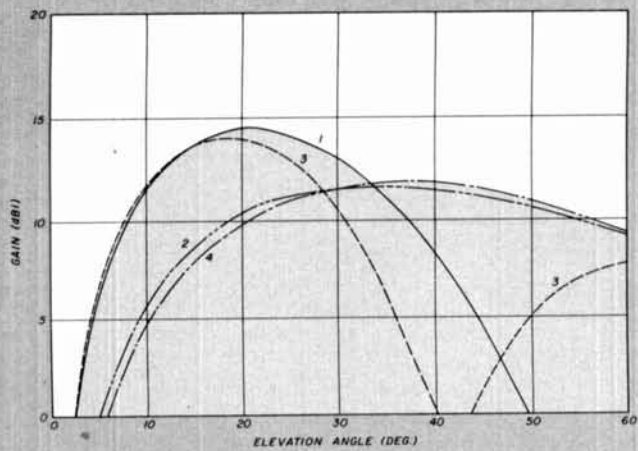

fig. 2A. Gain of a 3-element stack. Curve 1 — both, 2 — lower, 3 — upper, 4 — lower only (upper physically absent).
4. Mutual coupling or interaction between Yagi antennas tends to spoil the otherwise excellent properties of a single Yagi. This spoiling is most pronounced for low systems where spacings are small, not only to ground but between Yagi antennas (see for example figs. 2A, 2B, and 2C). This spoiling can be easily seen in the altered pattern(s) of the lower beam (curve 2) when the upper beam is physically present and (curve 4) when the upper beam is absent. You can also see the effect that stacking has on the F/B ratios (tables 2 and 3) and also (not shown) the effects on the calculated driving point impedances of both upper and lower Yagi antennas.